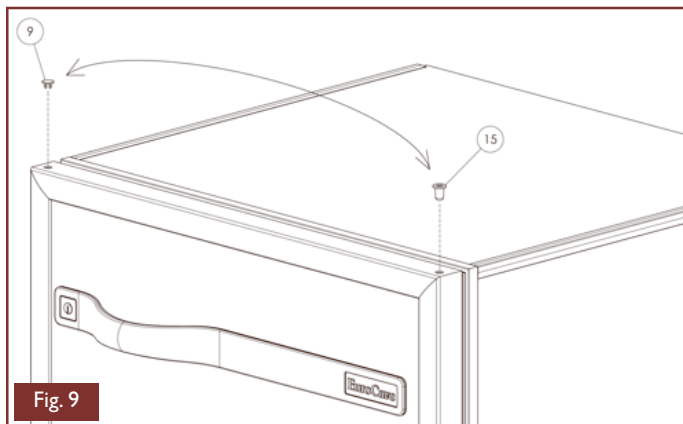

Fig. 9
- Remove the plastic pivot (15) and the grommet (9) and swap them over, see Fig. 9